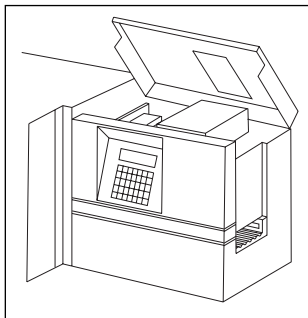

Figure 9.4
1. Lift right hand side of top (Figure 9.4).